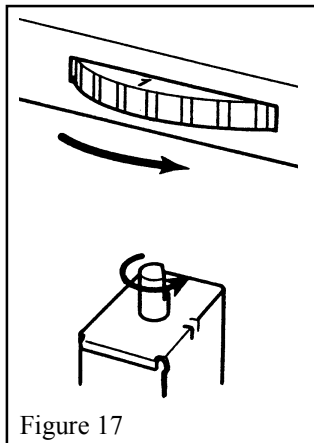

Figure 17
1. Turn the thermostat control wheel fully counterclockwise to the lowest setting (position 1). Turn the thermostat spindle fully counterclockwise. See figure 17.